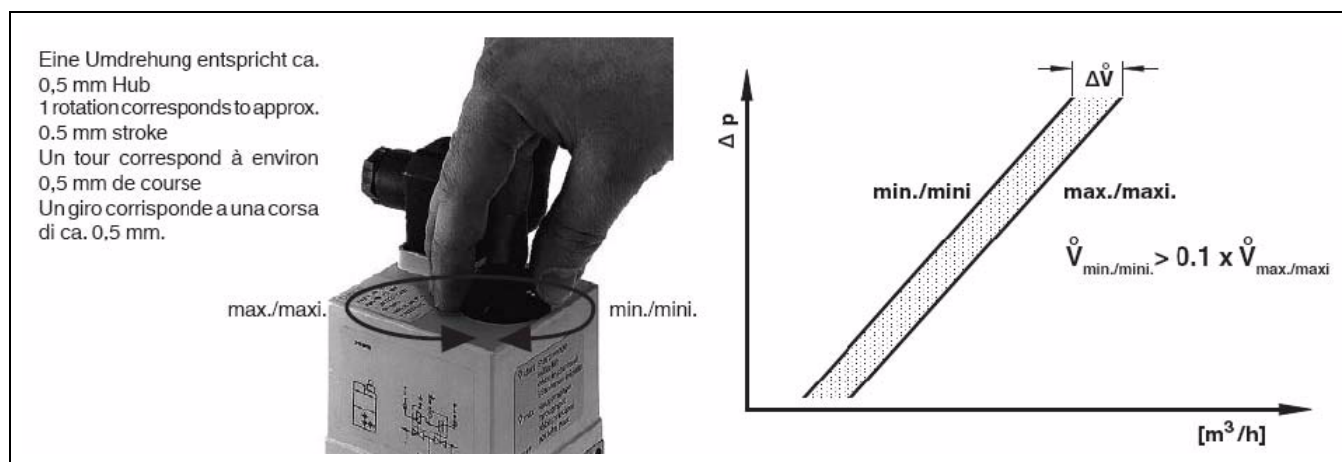

Figure 7A Pilot Valve Flow Adjustment
- f. Adjustment is on pilot solenoid valve. \(See Figure 7A.\)